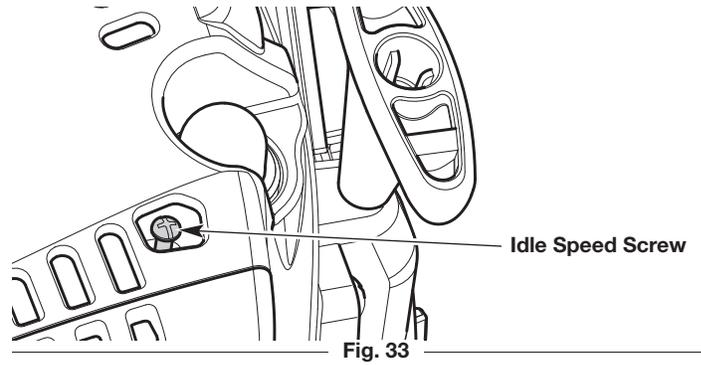

Fig. 33
- If the engine stops, increase the idle speed. Use a small Phillips screwdriver to turn the idle speed screw clockwise, 1/8 of a turn at a time, until the engine idles smoothly (Fig. 33).
- If the cutting head spins when the engine idles, reduce the idle speed. Turn the idle speed screw counterclockwise, 1/8 of a turn at a time, until the cutting head stops moving (Fig. 33).